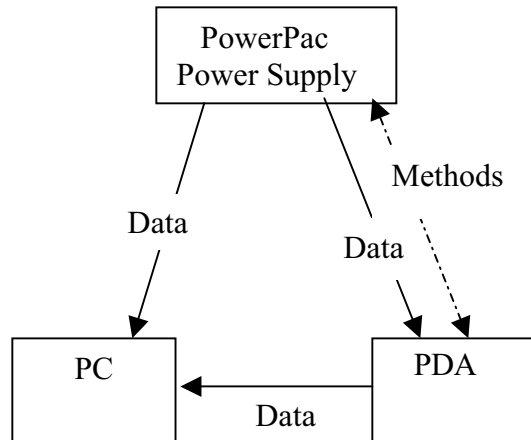

Fig. 13. Overview of Data Transfer
The PowerPac HV is capable of transmitting methods and data through an infrared (IR) port located on the front of the power supply (Figure 13). This optional PowerPac Data Transfer Software (DTS)(catalog #164-5067) includes the PowerPac Remote application for a PDA.